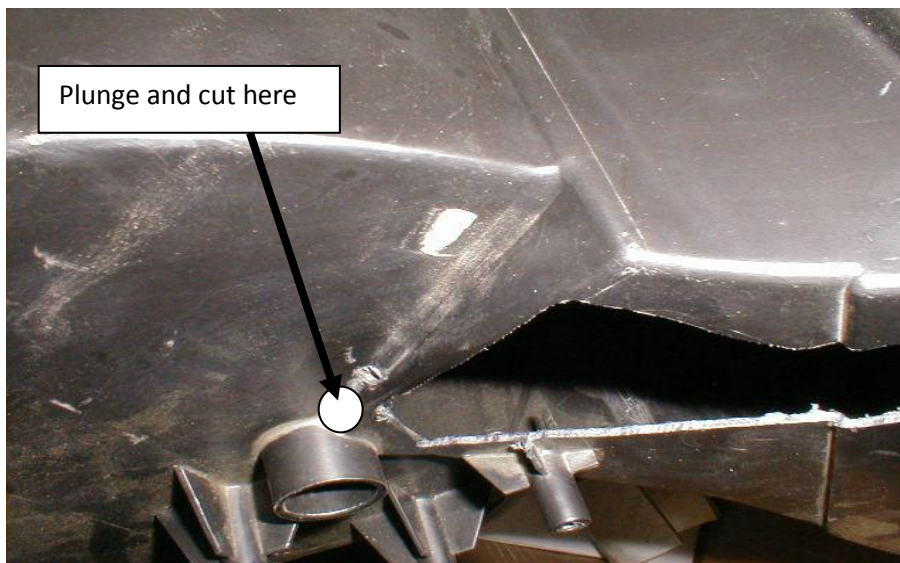

Fig 4.
5. Remove the cutout piece and remove the blend door. Sometimes the door breaks completely and can be easily removed. Unless you are very lucky, you will need to make an additional cut to release the door. Fig 4. shows the point to insert the saw bit and cut off the base of the blend door. The diagram below shows how the cut will be done.